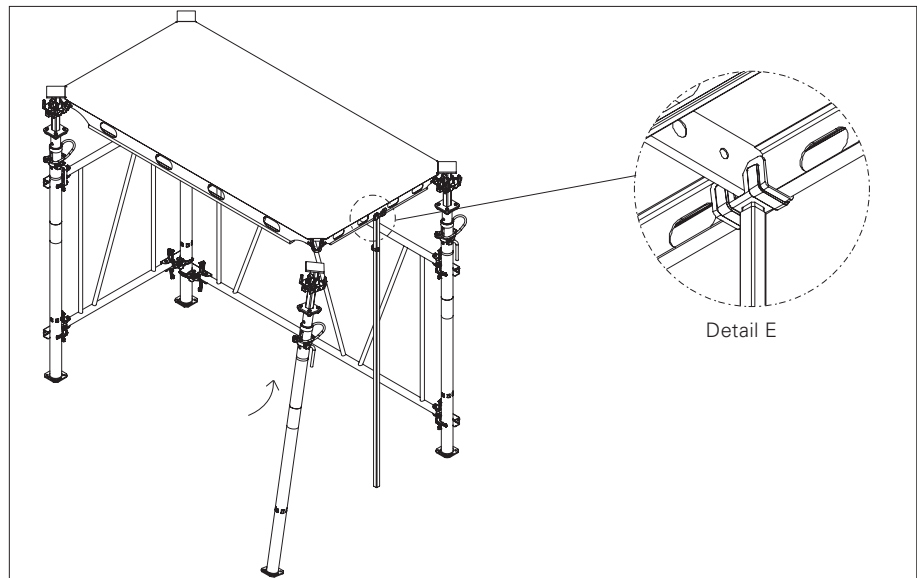

Fig. A5.04
8. While the shuttering aid is supporting, attach the fourth prop to the panel corner. (Fig. A5.04)